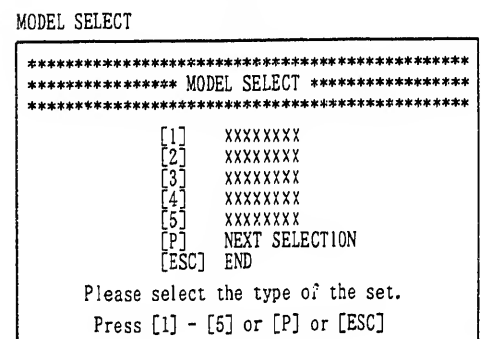
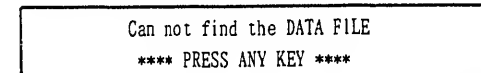

Fig. 2-6
Fig. 2-9
The MAP starts and the MODEL SELECT shown Fig. 2-6 appears.
2. If you select number without a model name by mistake, the message shown in Fig. 2-9 will appear in the computer's display. Press any key to return the display to Fig. 2-6 (MODEL SELECT).